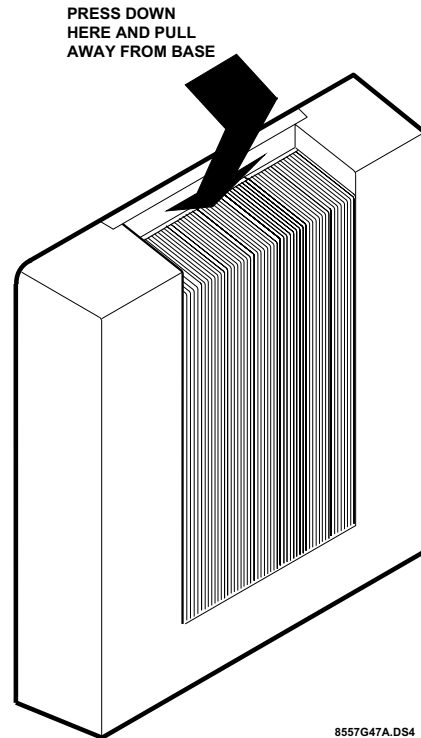

Figure 2. Removing the Cover
2. Remove the HIM cover and set it aside (see Figure 2).